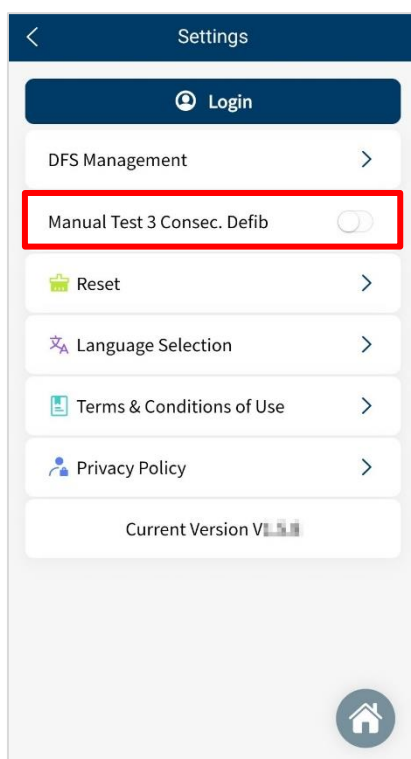

Figure 27: 3 Consec. Defib. Activation in the Settings Page
1. In Settings, users will see figure 27 on the screen.